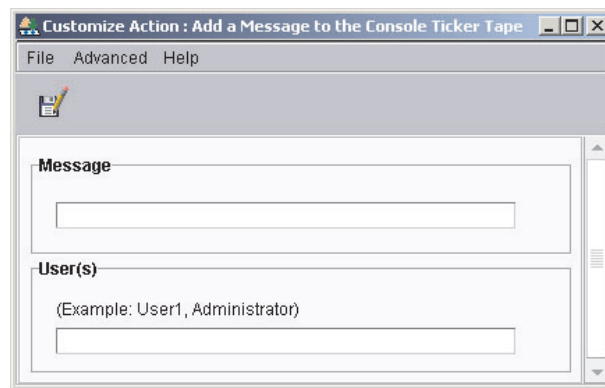

Figure 27. “Customize Action” window: Customizing an action for a ticker-tape alert
1. In the Actions pane, double-click an event action type. The “Customize Action” window opens. The example that is shown in Figure 27 uses the Add a Message to the Console Ticker Tape event action type.